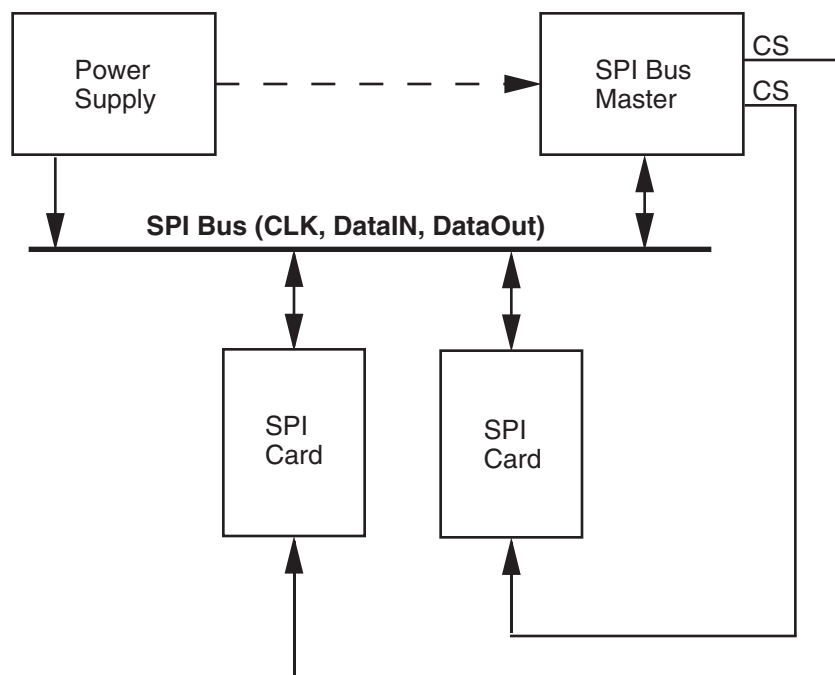

Figure 4-2 MultiMediaCard Bus System
The MultiMediaCard identification and addressing algorithms are replaced by a hardware Chip Select (CS) signal. There are no broadcast commands. A card (slave) is selected, for every command, by asserting (active low) the CS signal (see Figure 4-2).